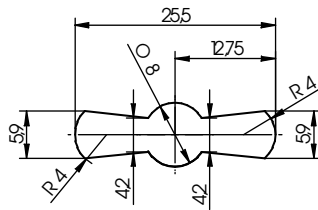
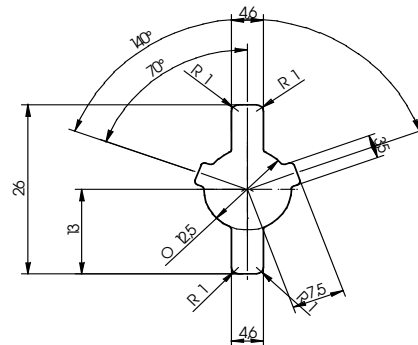

Fig. 1: Key guide 86101
Fig. 2: Key carrier guide 86102
- Use of the Kaba Mauer key guide (see Fig. 1) or of the Kaba Mauer key carrier guide (see Fig. 2) is recommended. Considering DIN 2768-mH, the keyhole in the door of the secure storage unit should be dimensioned accordingly (see Fig. 1 or 2).